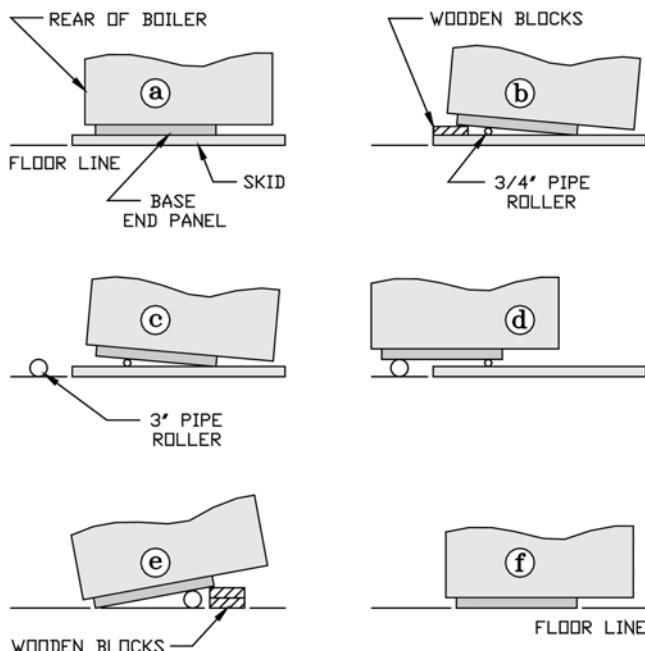

Figure 2: Skid Removal
- B. Remove boiler from skid.** See Figure 2. Exercise care to avoid dropping boiler.